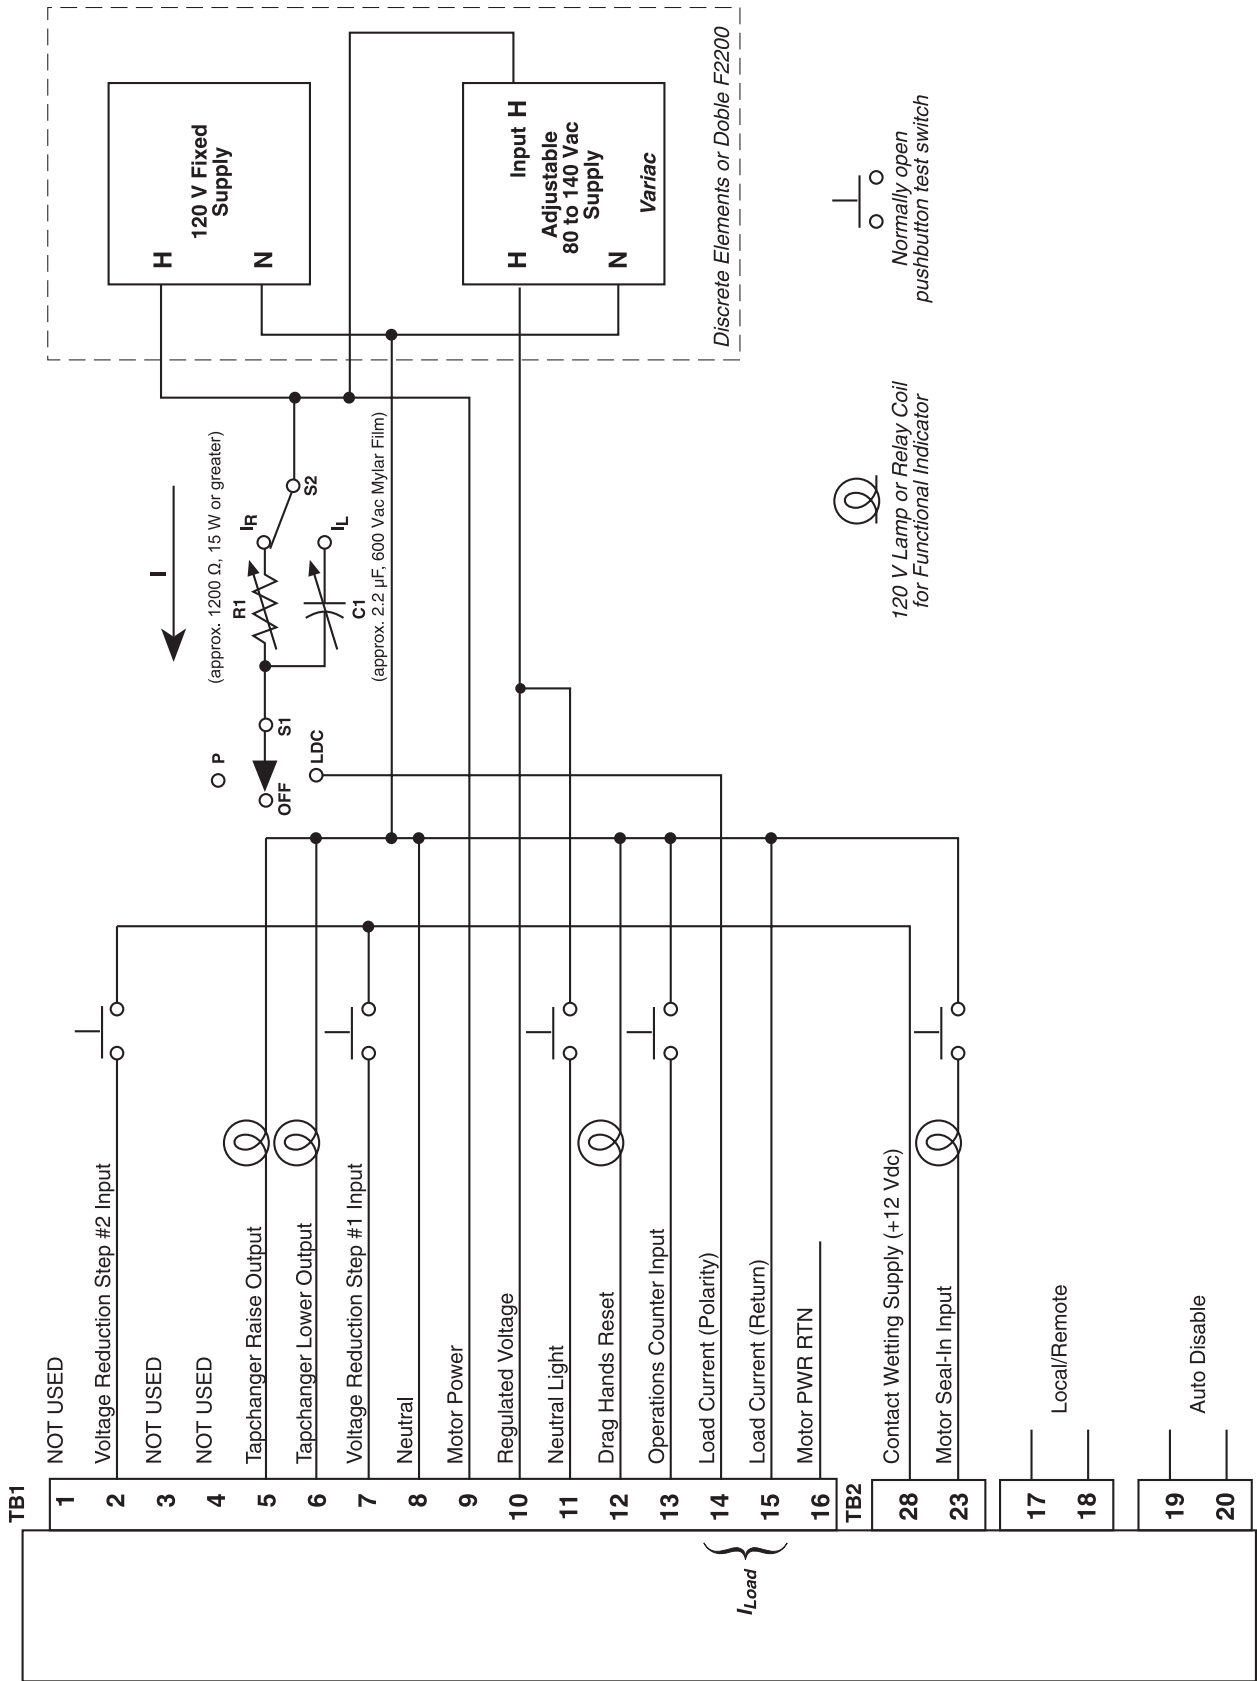

Figure 13 M-2355B Test Procedure External Connection
1. Make electrical connections as shown in Figure 13, M-2355B Test Procedure External Connections.